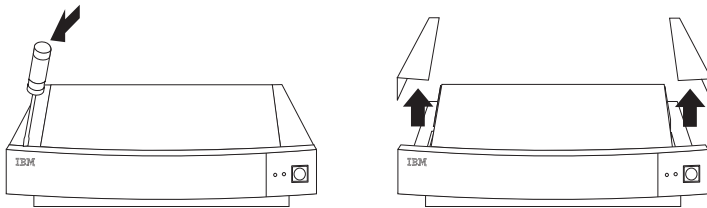

Figure 4-8. Media Console Wing Cover Removal
- Pry off the left and right wing covers as shown in Figure 4-8.